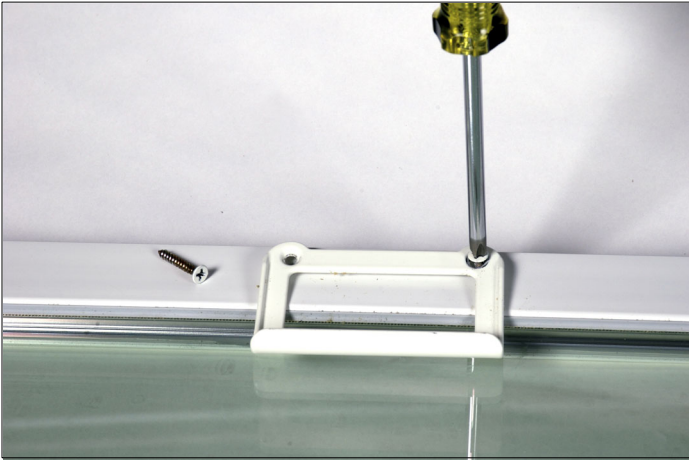

Figure 1: Remove screws from existing sash lift.
1. Remove screws fastening existing sash lift. See figure 1.